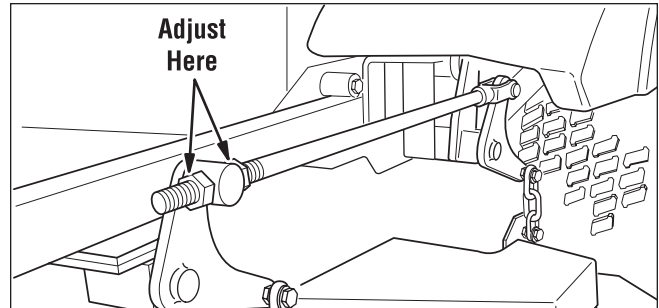

Figure 37. Adjust Lift Rod Timing
4. Refer to Figure 37. To adjust the lift rod timing, adjust the 5/8" hex nuts on either side of the front lift pivot until the measurements are equal. Repeat for other side.